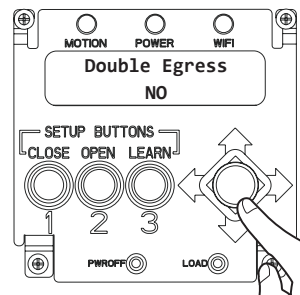

Figure 18
- **Double Egress** = YES or NO (Figure 18)